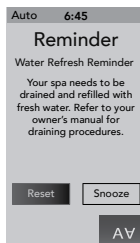

Figure 15.0f
25. **Water Refresh Reminder:** This message will appear when the “Water Refresh” timer has expired (Figure 15.0f). The water needs to be drained and refilled with fresh water.